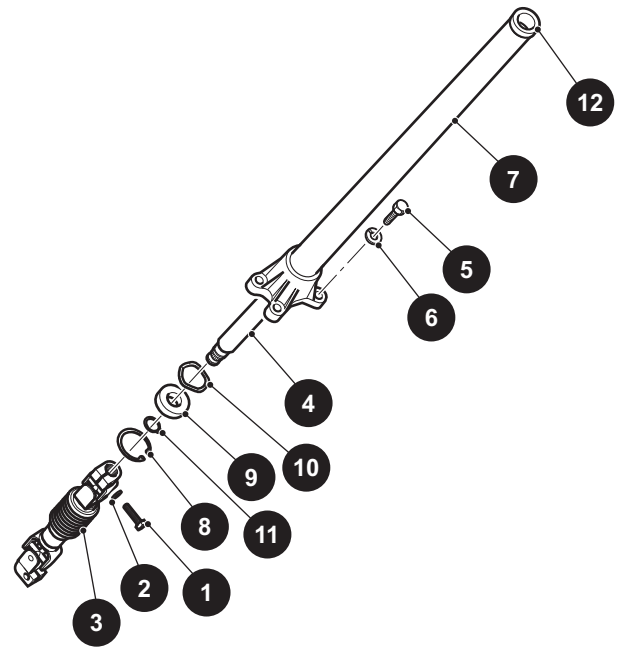

Figure 23 Steering Shaft and Column
1. To remove the steering shaft (4) (Ref. Figure 23), remove the steering wheel. See the *Steering Wheel Replacement on page 61*.
4. Remove the bolt (1) and washer (2) that secures the intermediate shaft (3) to the steering shaft (4).